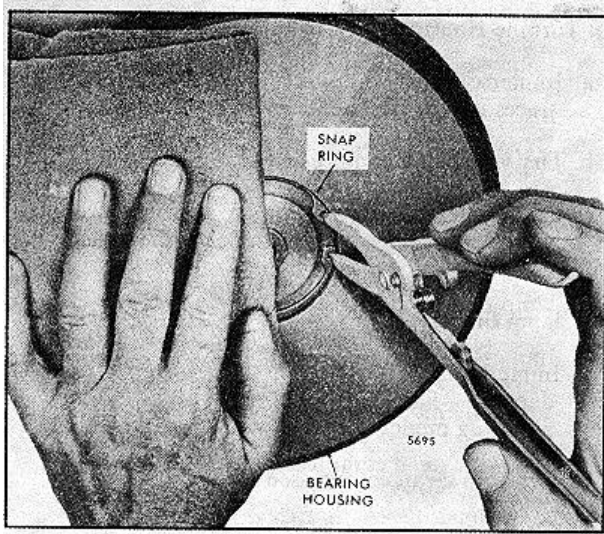

FIG. 8 Removing External Snap Ring from Bearing Housing
8. Remove the external snap ring from the compressor end of the bearing housing (Fig. 8). Use a medium size internal snap ring pliers and *restrain the ring with a shop cloth to prevent injury, in the event the ring goes astray.*